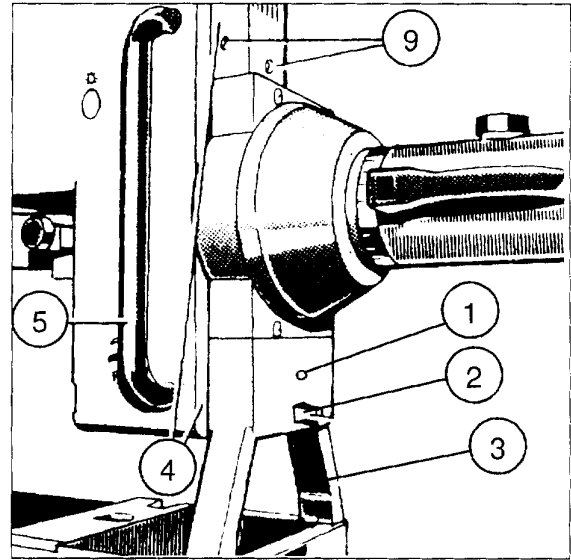
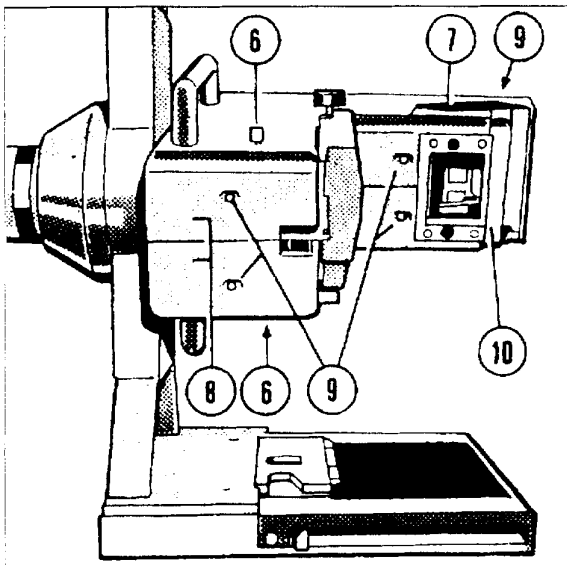

Fig. 4
Fig. 5
For systems with only one table, remove the screws first (1/Fig.4). This unlocks the rotation lever (2/Fig.4). The system support is not counterbalanced.
- Loosen the four Allen screws(4/Fig.4) for both handles by (5/Fig.4) approximately two revolutions and remove the handles.
- Remove both caps from the compression adjustments; loosen the nuts on the cone and remove the knobs (6/Fig.5).
- Remove the front cover of the collimator (10/Fig.5) .
- Remove the six screws (9/Fig.4/5) on the column top cover and remove both parts (8/ Fig.5) of the cover.